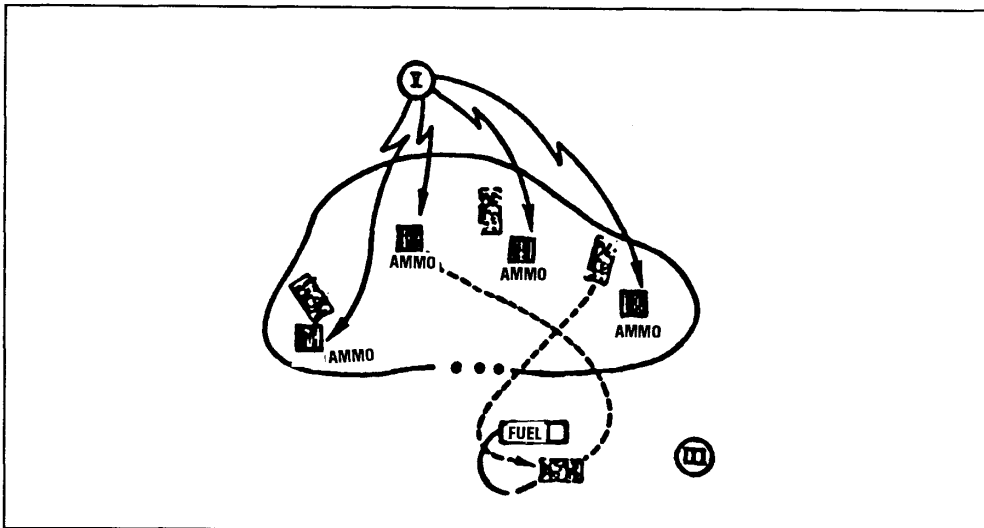

Figure 8-4. Pre-positioned supplies, method 2.
**Method 2.** Class V supply is pre-positioned (and dug-in if time permits) at each vehicle position, and Class III fuel tankers are pre-positioned in one location for the entire platoon (see Figure 8-4). In this method, Class V supplies are placed on the ground in the vicinity of each vehicle position. When the platoon arrives, three vehicles move into their fighting positions and begin to rearm. The fourth vehicle stops at the Class III fuel tanker located to the rear of the position and refuels. When that vehicle is full, it moves into its fighting position and begins to rearm while another vehicle moves to the refuel point.